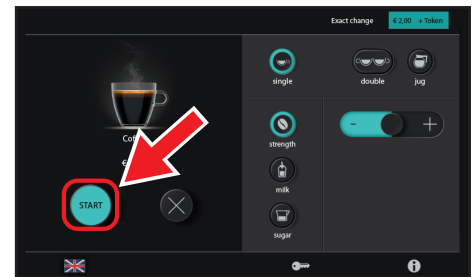

Figure 25.
5. Press Start (see Figure 25) (first make payment if required). The light above the pouring spout of the selected product will start to flash quickly and your drink will be served in your cup or glass.
6. Press Start. (see Figure 25)